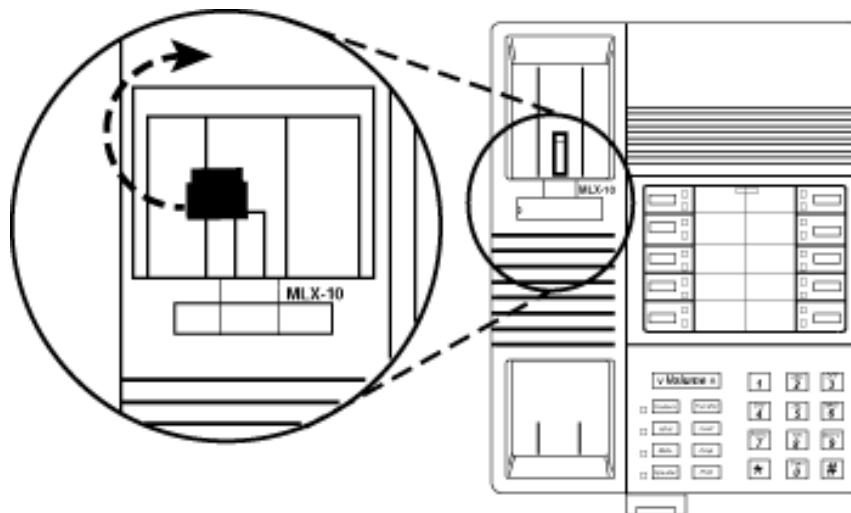

Figure 3-6. Labeling the Extension
2. Rotate the handset holder 180 degrees and replace it in its slot. See Figure 3-6.